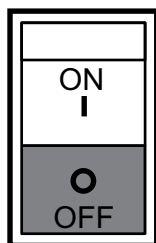

Figure 26. Main Circuit Breaker (OFF)
1. Place main circuit breaker (Figure 26) in the **OFF** position.